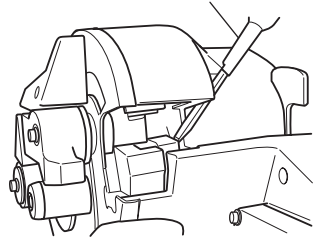

Fig. 8
- Removal of the lower cutter can be easily made if the lower cutter is wrenched with a Phillips head screwdriver as shown in the following diagram. (Fig. 8)